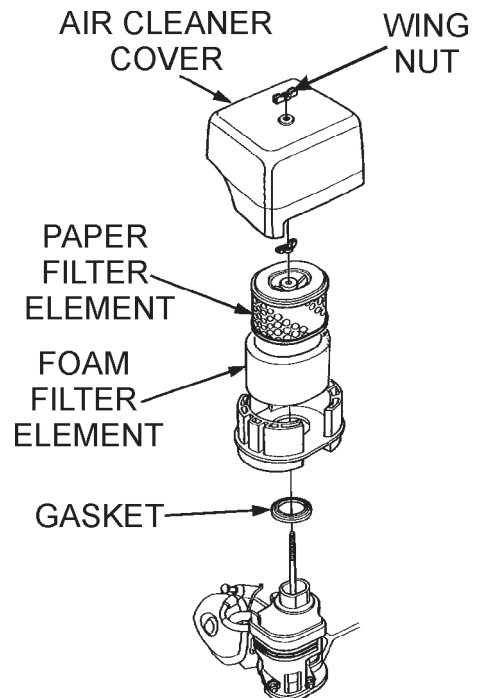

Figure 30. Engine Air Cleaner
2. Tap the paper filter element (Figure 30) several times on a hard surface to remove dirt, or blow compressed air [not exceeding 30 psi (207 kPa, 2.1 kgf/cm²)] through the filter element from the air cleaner case side. **NEVER** brush off dirt. Brushing will force dirt into the fibers. Replace the paper filter element if it is excessively dirty.